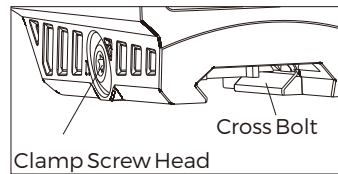

Fig 6
2. Using the included T10 Torx tool, loosen the cross bolt and then attach the sight into the Picatinny rail in an appropriate position. Apply forward pressure towards the muzzle and tighten the clamp bolt. (see Fig 6)